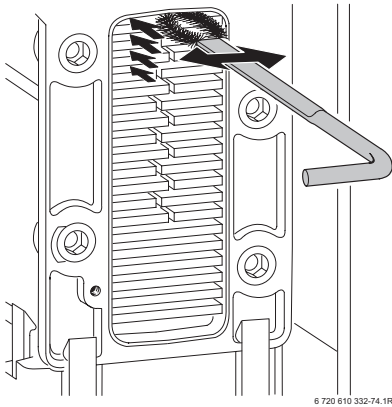

Fig. 53
- Clean the heat exchanger from top to bottom using the brush. Refer to fig. 53.